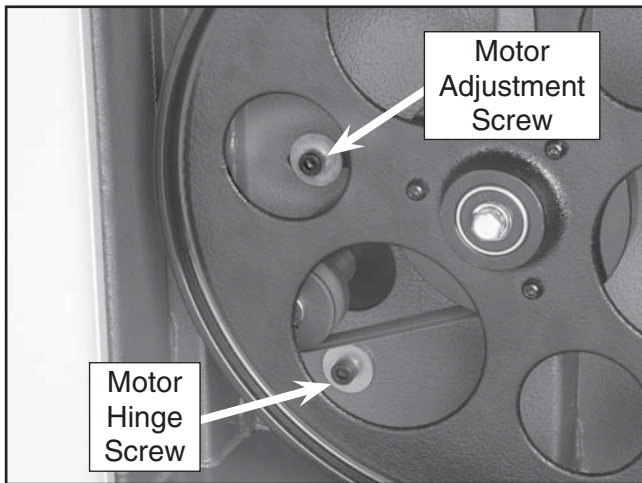

Figure 43. Motor mount screws.
3. Loosen the motor mount screw shown in **Figure 43**.
3. Loosen the motor mount bolt shown in **Figure 43**.